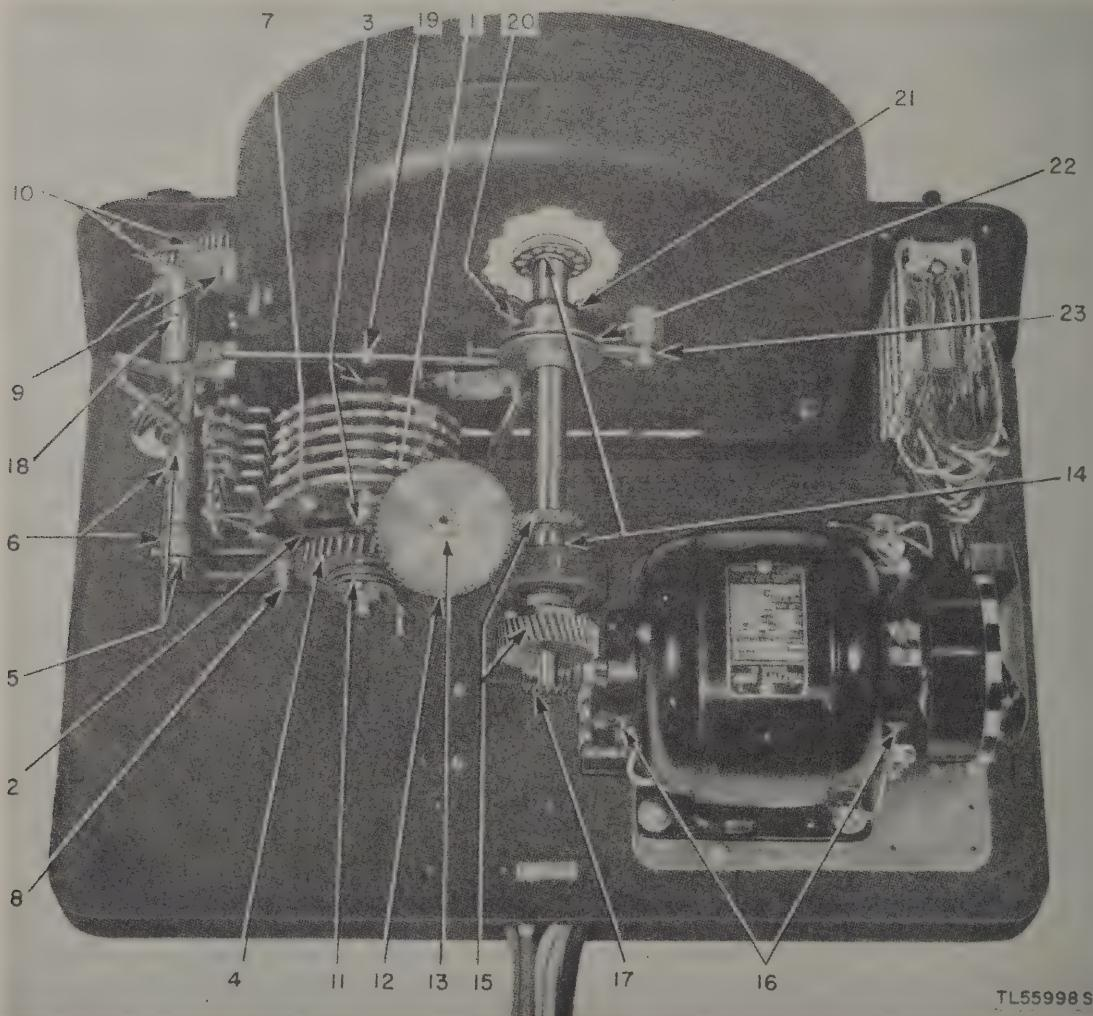

Figure 8. Distortion Test Set TS-383/GG showing lubrication points.
*When the temperature is so high that special preservative lubricating oil (PS) runs off the parts, engine oil (OE) may be used in place of oil (PS).
a. GENERAL. The lubrication instructions listed are based on normal operating conditions with the equipment in service for an average of 8 hours a day. Under these conditions, the lubrication interval is once every month. When the equipment is operated more than 8 hours a day, reduce the interval proportionally. When equipment is operated in tropical climates, a further reduction in the interval may be required. The location of the parts of Distortion Test Set TS-383/GG are shown in figure 8. The type of lubricant to be used and the specific instructions for each part are given in the lubrication chart. (See e below.) Apply PS sparingly to springs and loops of all helical springs to prevent wear and rust. When the unit is overhauled or repairs made, clean the parts with dry-cleaning solvent (SD), allow the equipment to dry, and relubricate.
*Item number refers to figure 8.